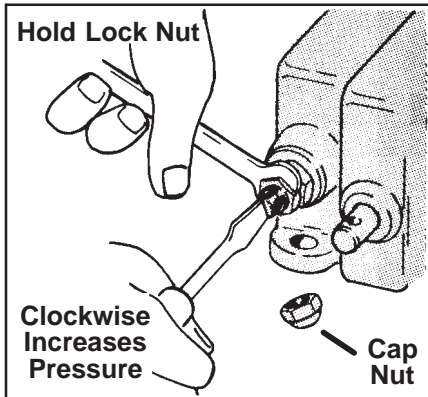

Fig. 25 Adjusting Relief Pressure
1. Remove the cap nut from the relief valve and loosen the lock nut (Fig. 25).
2. Turn the adjusting screw to get the desired pressure (clockwise to increase pressure; counterclockwise to decrease pressure), as shown in Fig. 25